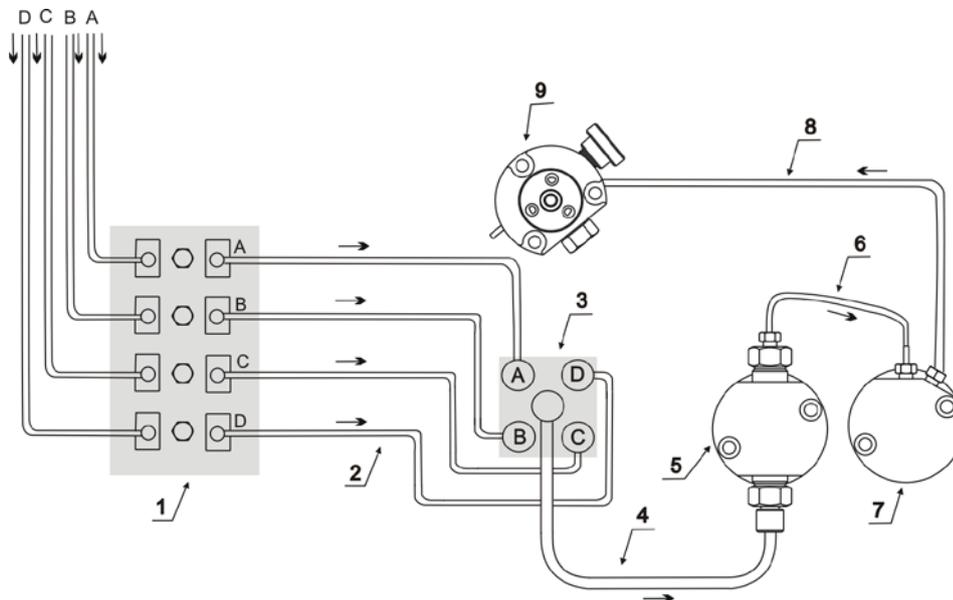
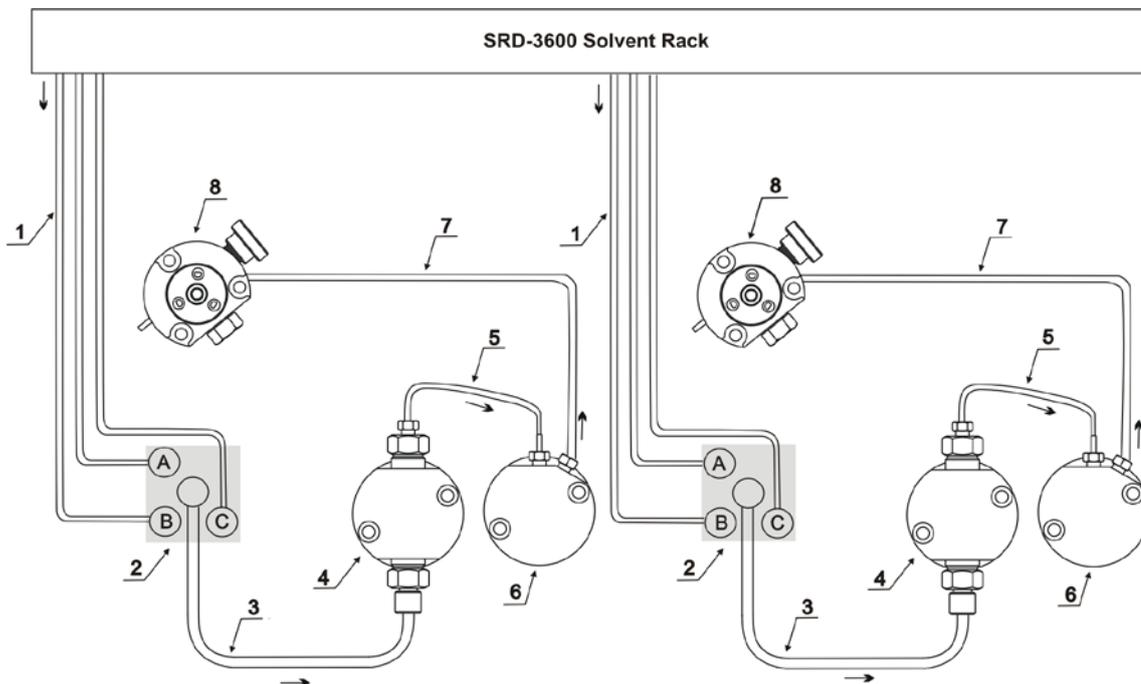

Fig. 66: Fluid connections (The arrows indicate the direction of flow.)
Fig. 68: Fluid connections (The arrows indicate the direction of flow.)
12. Replace the tubing (ECTFE) from the proportioning valve to the working head (→ Fig. 66, page 147 and Fig. 68, page 149) with the PEEK tubing from the Micro Flow option.
12. Replace the (PEEK) tubing from the proportioning valve to the working head (→ Fig. 66, page 147 and Fig. 68, page 149) with the (ECTFE) tubing that was removed during installation of the Micro Flow option.